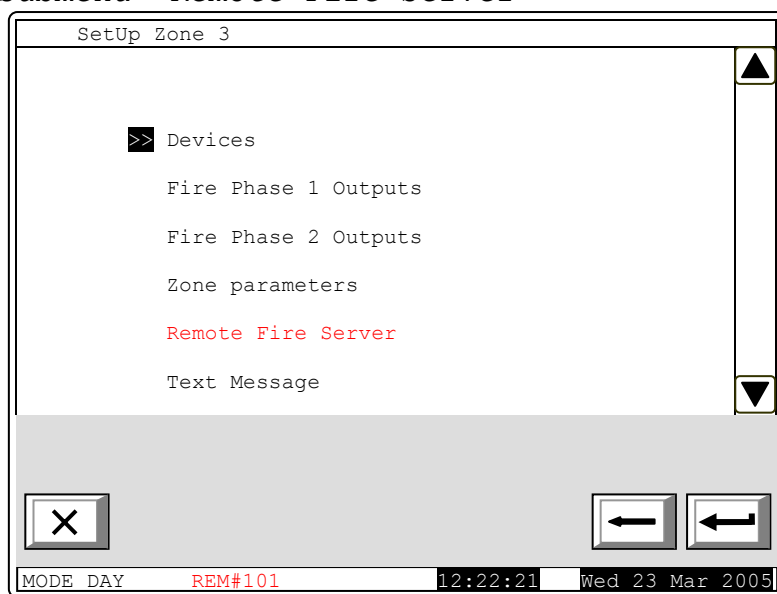

fig.16
- Step back and go to the main zone setup menu (fig. 16)